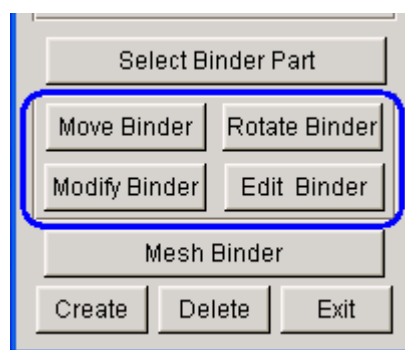

Figure 6.2.11 Binder Editing Options
Once the binder is created, the user can edit binder using the editing functions as illustrated in Figure 6.2.11.
3. The user is given an option to rotate the binder by moving the SLIDER bar to either left or right. Moving the slider to the left will rotate the binder in clockwise direction, and vice versa. While moving the slider, the user can observe the dynamic view of binder from the display area. The amount of rotation angle is recorded on the box right below the SLIDER bar as illustrated in Figure 6.2.11.